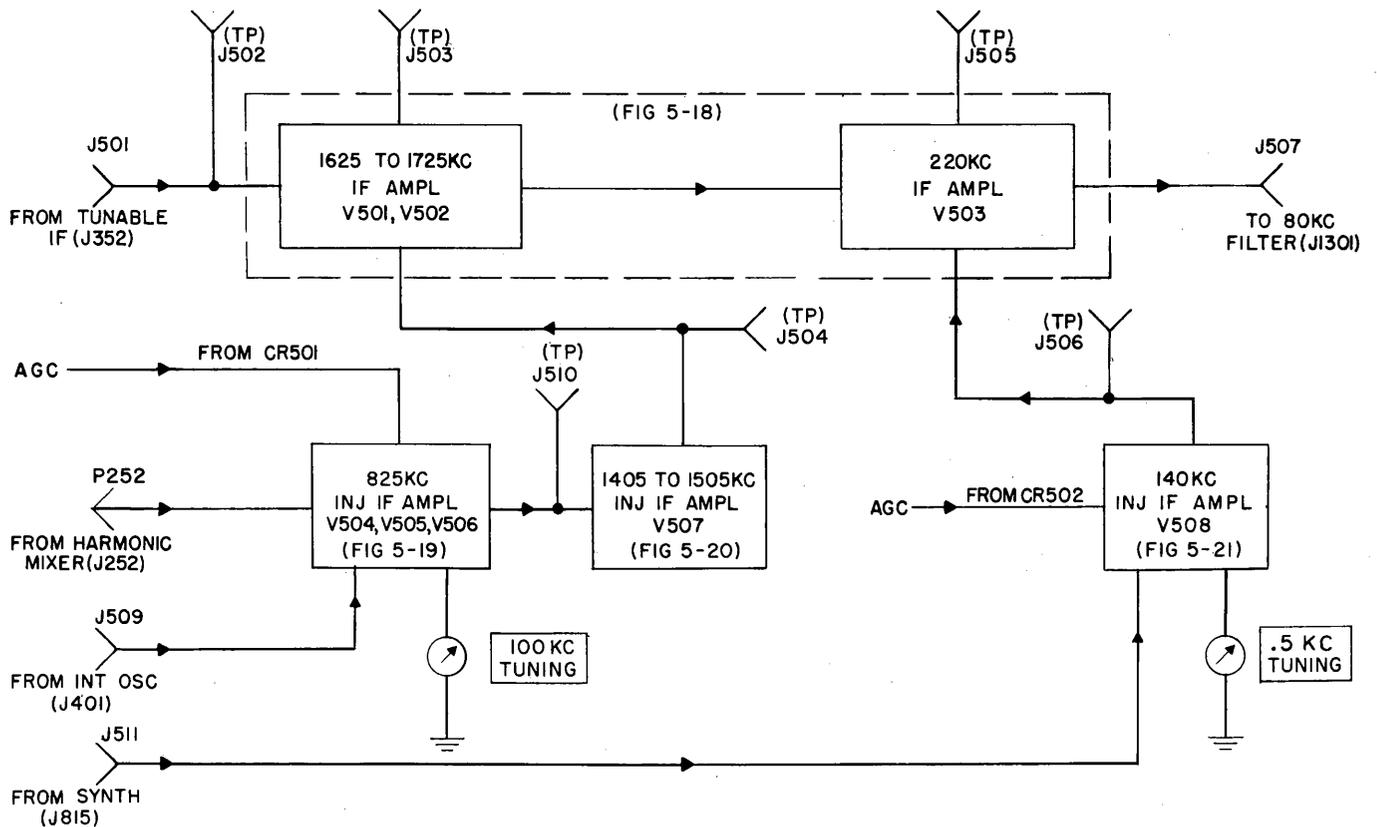

Figure 5-17. Injection IF Amplifier, Functional Block Diagram
a. **DIAGRAMS.**—Figure 5-17 is a functional block diagram of the injection IF amplifier. For a complete schematic diagram, refer to figure 6-16. The following functional schematic diagrams of injection IF amplifier are also provided: